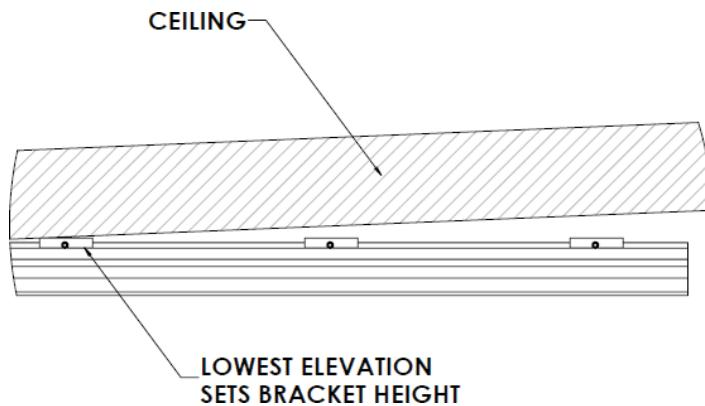

Figure 81: **Fixed Gate Track Bracket Height Set at Lowest Level of the Lower Ceiling**
a. Set the ceiling bracket height for the fixed gate track at the lowest level of the lower ceiling (see Figure 81).
- For super track systems, project the line for the X/Y gantry bracket height 4 1/4" above the fixed gate track brackets (see Figure 81).
- For TrackPlus systems, project the line for the X/Y gantry bracket height 7 3/16" above the fixed gate track brackets (see Figure 81).